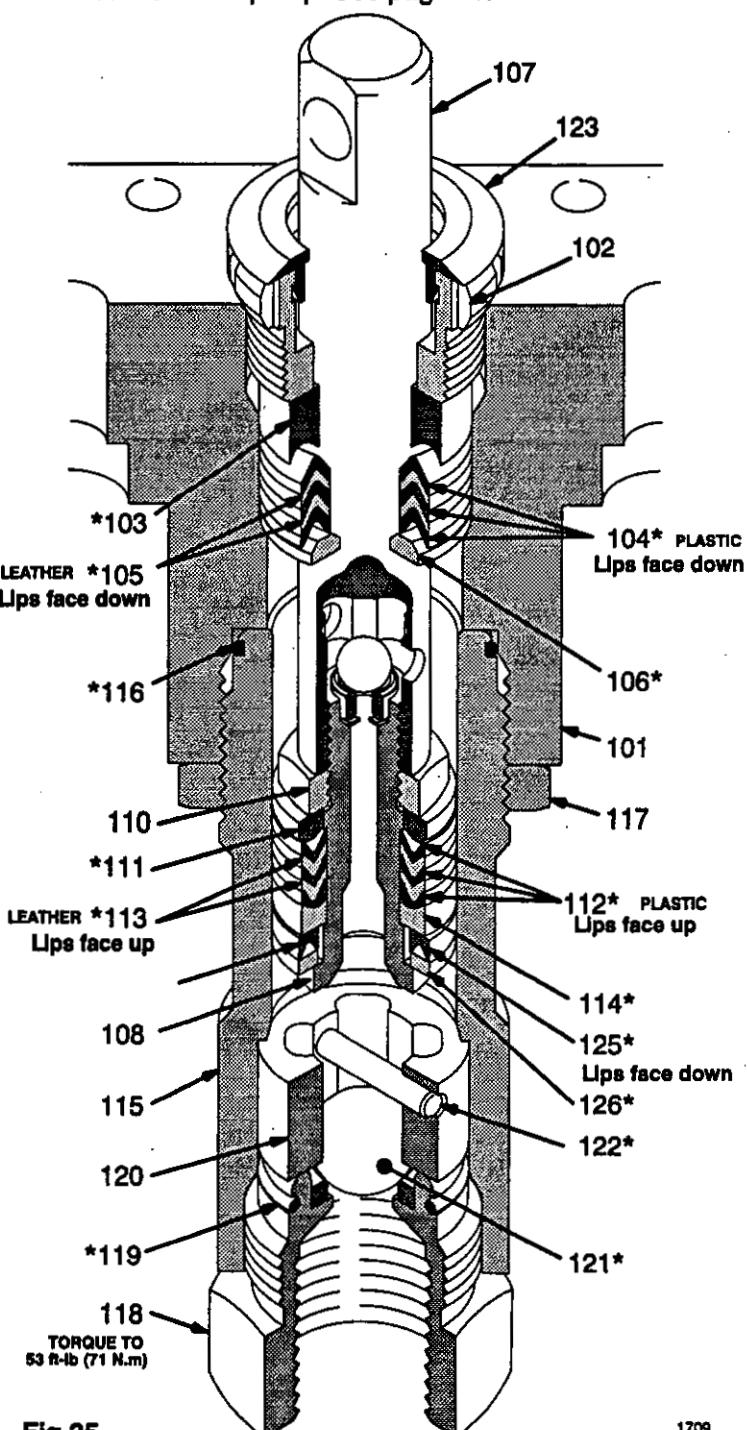

Fig 25 \_\_\_\_\_ 1708
9. Stack these parts one at a time into the top of the manifold (101): the male gland (106\*), alternately three plastic packings (104\*) with two leather packings (105\*), and then the female gland (103\*). See Fig 25.